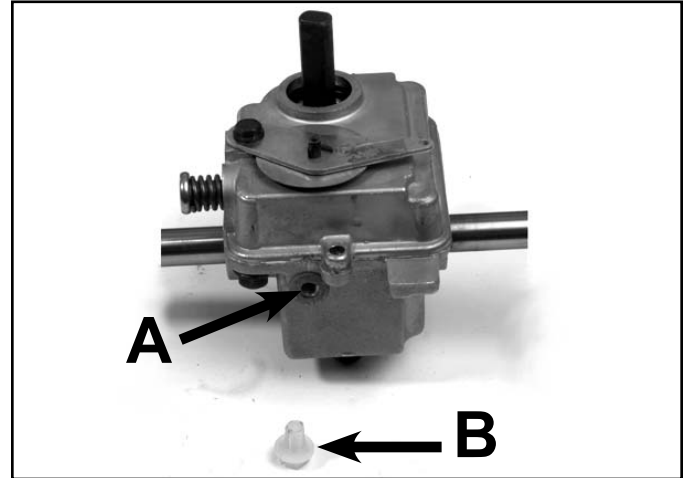

Fig 020
9. Fill the transmission with gear oil AFTER it is installed in the mower. The top of this transmission is not sealed. It will leak if tipped on its side (Fig. 020).